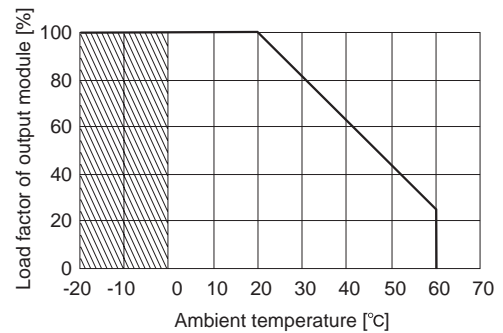

Fig.5.5 Derating curve depending on ambient temperature(-T)
- The difference from standard is shown Fig 5.5.